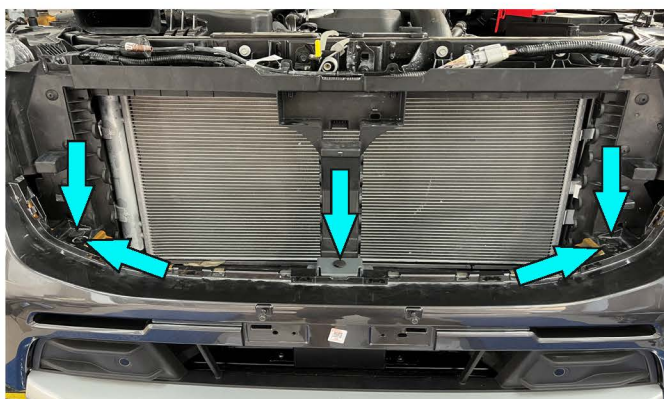

Fig.9
9. Remove plastic clips, unscrew bolts and remove OE bumper (fig.9).